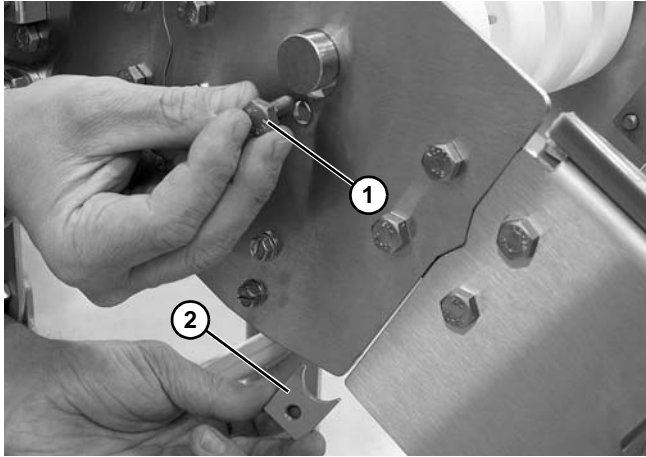

Figure 76
2. Remove screw (**Figure 76, item 1**) and shaft retainer (**Figure 76, item 2**) from each side of the conveyor.